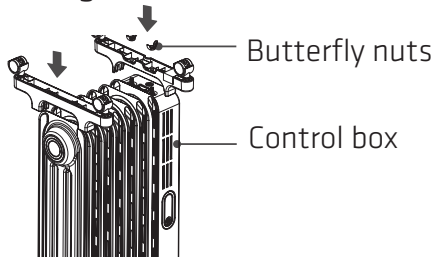

figure 2
- Refer to figures 2 and 3. First, flip the heater so that the bottom is facing upwards. Align the two circular holes of the support assembly to the two screws at the bottom of the control box and press the assembly down. Next, remove the blue tape on the support foot and take out the butterfly nuts. Secure the foot assembly with the butterfly nuts. Make sure the mounting groove of the foot assembly is aligned and clamped with the clamping groove on the second heat sink.